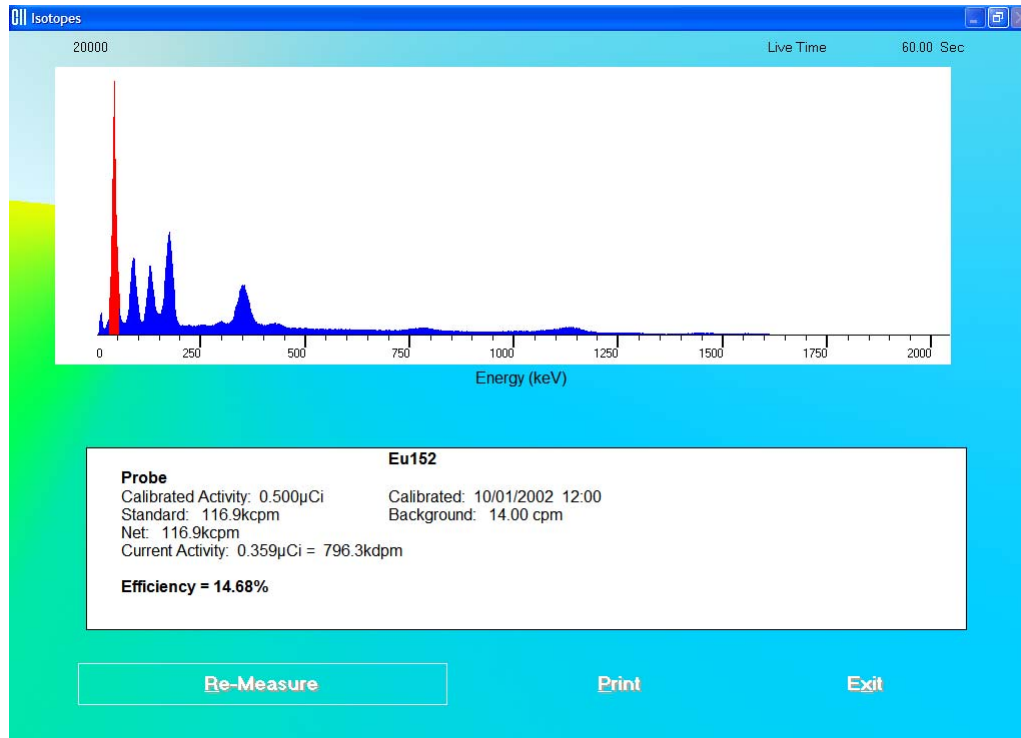

Figure 6-14
10. After the measurement is completed, the screen appears as shown in Figure 6-14. The results in the lower part of the screen show measured counts and calculated values for activity and efficiency.